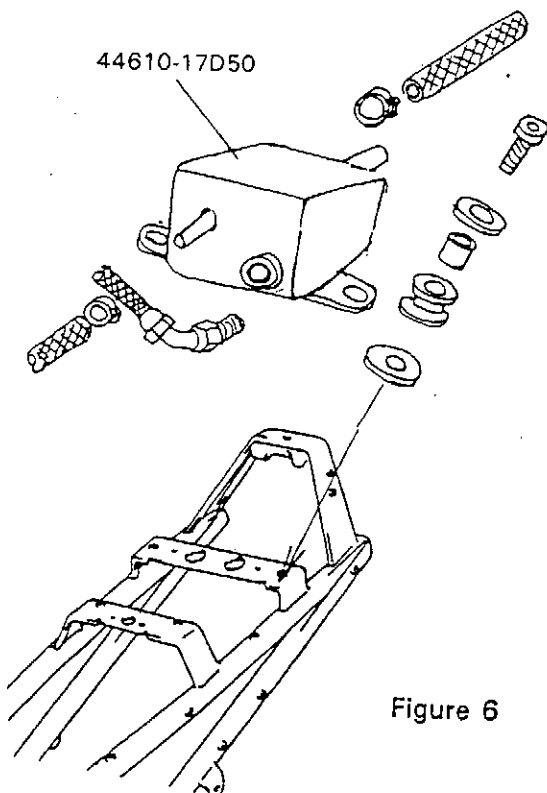
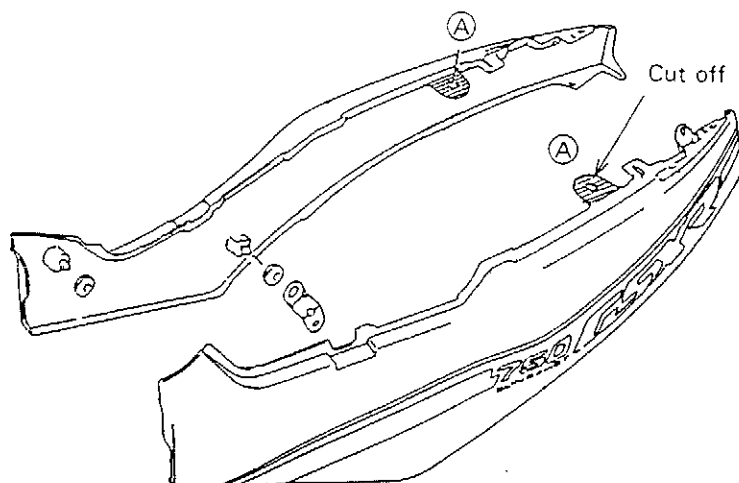

Figure 6
Figure 7
- For mounting location of the oil catch tank, refer to Figure 6.
- * When the hose fitting No.2 (44634-17D50) is not used, blind the opening ① of oil catch tank comp. (44610-17D50)
- Mounting the oil catch tank requires installation of the optional Frame cover. When installing the Frame cover, cut off the bracket (A) of both the right and left frame covers as shown in Figure 7.